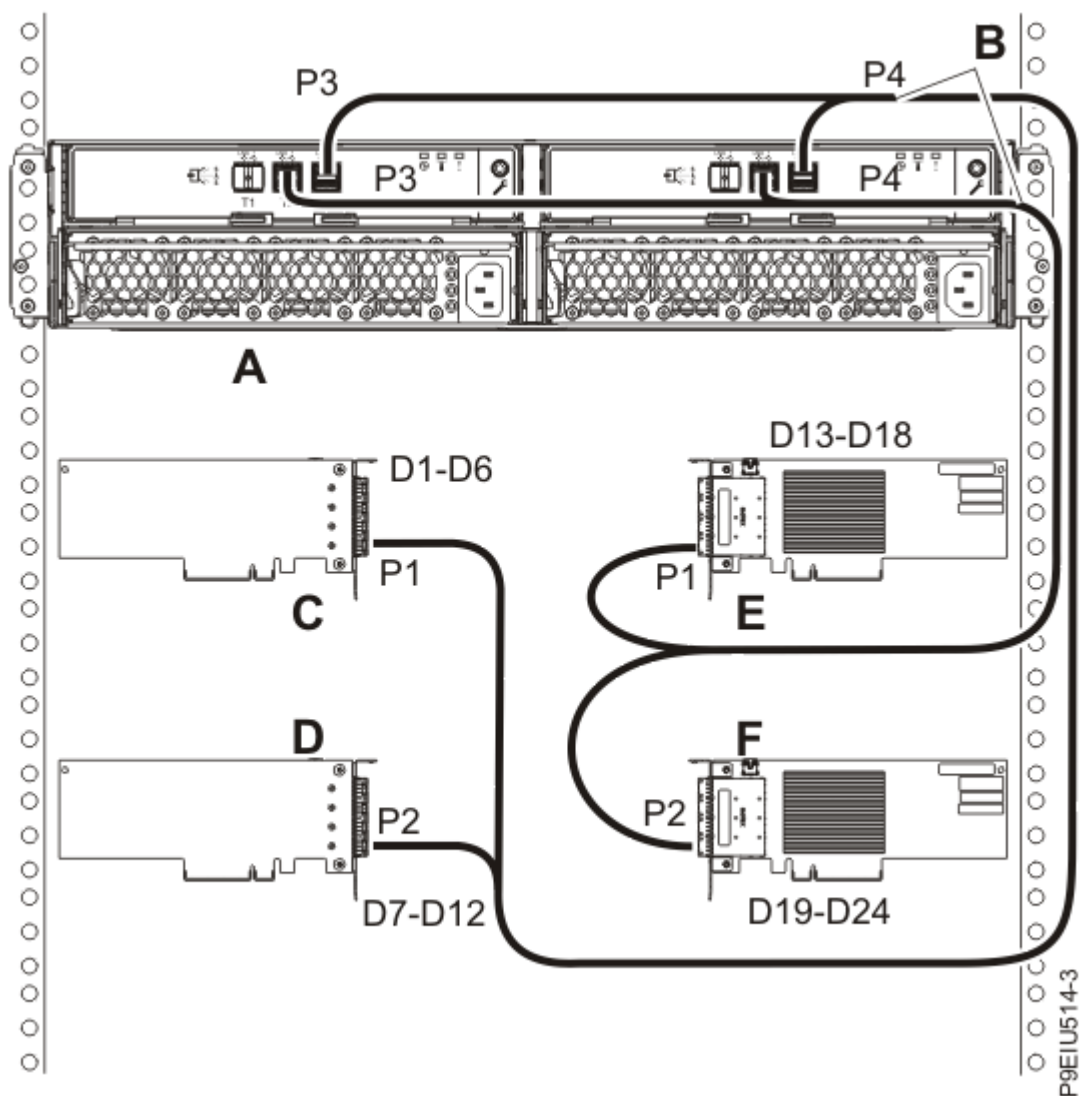

Figure 23: Mode 4 connection of one ESLL or ESLS storage enclosure by using X12 cables to four independent FC EJ0J or FC EJ0M SAS adapters
23. Complete a mode 4 connection of one enclosure (A) by using X12 cables (B) to four independent FC EJ0J or FC EJ0M SAS adapters as shown in Figure 23 on page 28. Then, continue with “Connecting cables, power cords, and installing covers” on page 29.